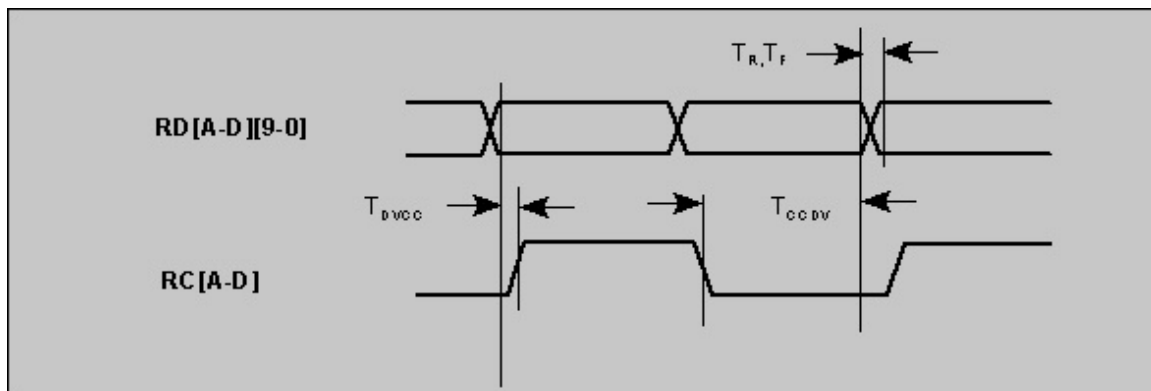
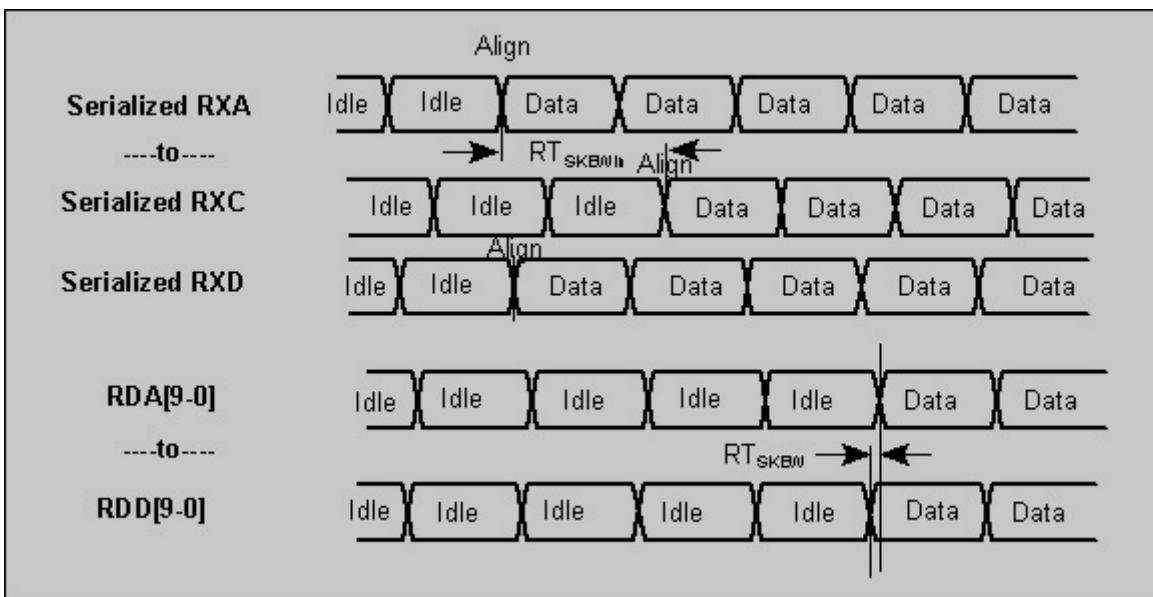

FIGURE 6-3. RECEIVER PARALLEL DATA TIMING
FIGURE 6-6. CHANNEL ALIGNMENT OPERATION
**TABLE 6-9. RECEIVE PARALLEL INTERFACE TIMING** (see Figure 6-3 through Figure 6-6)